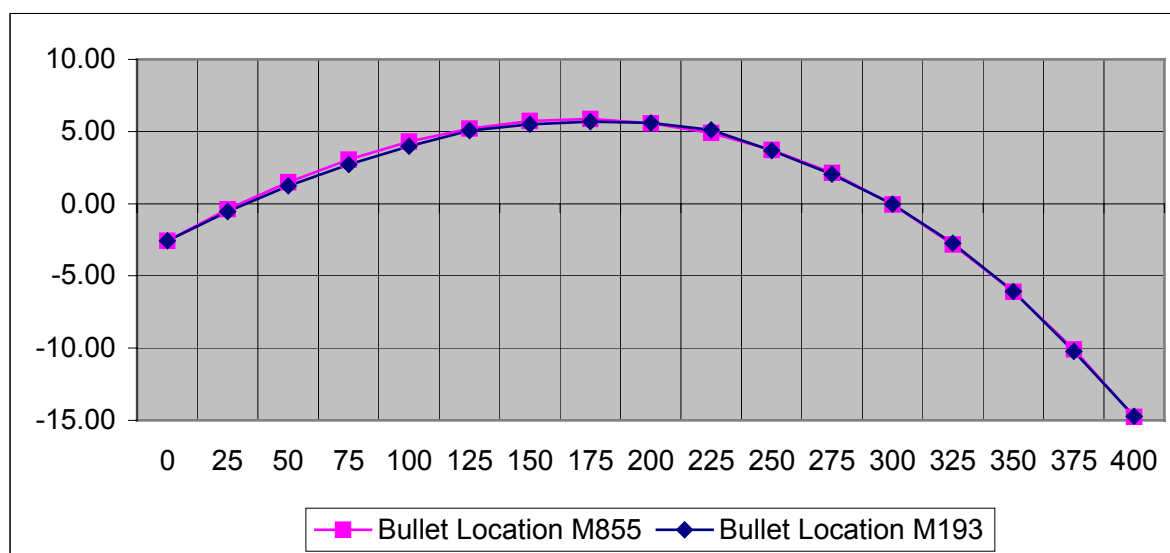

Figure 5-34. M855 zeroed at 300 meters; M193 re-zeroed at 300 meters.
(6) As stated previously M193 and M855 ammunition can be fired from an M16A2-/A4-series weapon. Table 5-4 and Figure 5-34, page 5-34, show the difference between a rifle zeroed with M855 ammunition and then re-zeroed with M193 ammunition at 300 meters. There is practically no difference between the trajectory of the rounds or the impact of the rounds on target.